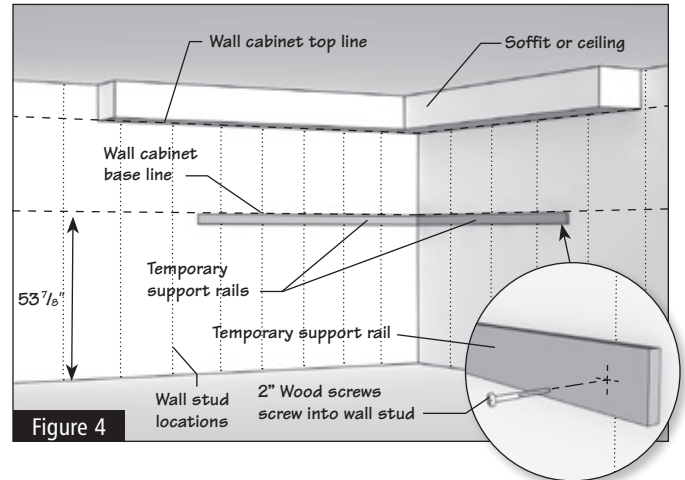

Figure 4
**1.5** Using the 1 x 2 or 1 x 3 furring strips, screw a support rail into the studs with 2" wood screws below the baseline you have drawn for the wall cabinets. This will help support the weight of the wall cabinets, and give you something to rest the cabinets on when installing them. Make sure your support rail (sometimes called a cleat or ledger board) is level. (Figure 4)